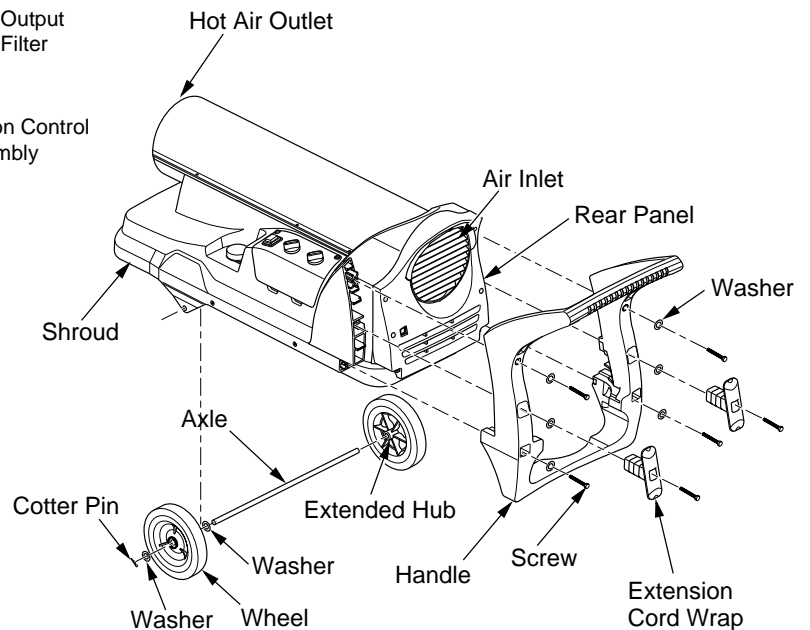

Figure 4 - Wheel and Handle Assembly
1. Slide axle through shroud. Install washers and wheels on axle as shown in Figure 4.
**IMPORTANT:** When installing wheels, point extended hub of wheels toward shroud (see Figure 4).